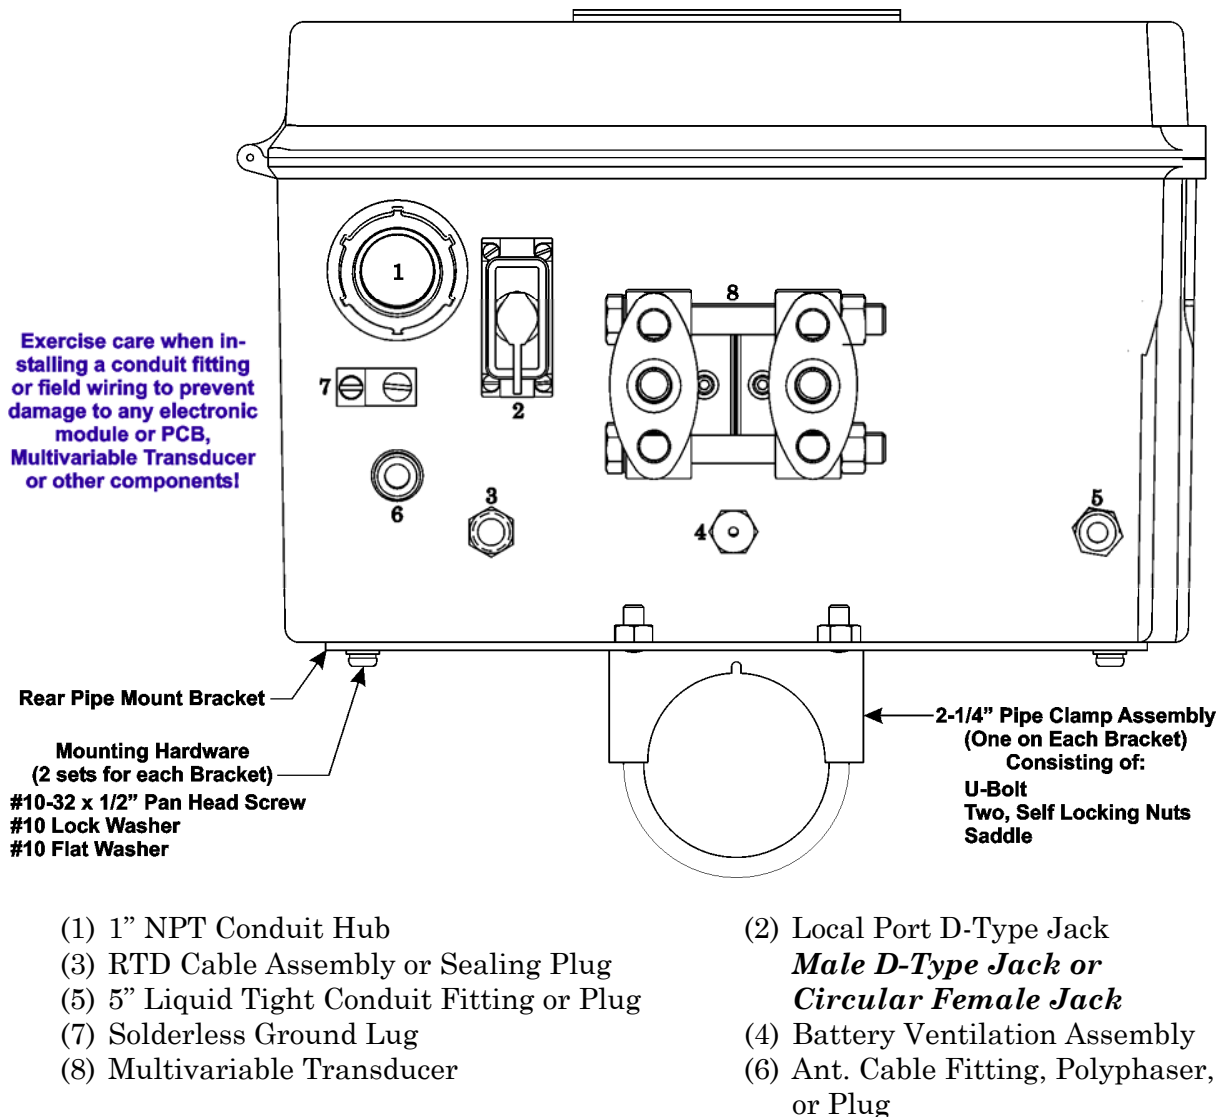

Figure 2-3 - ControlWave EFM Bottom View
- The unit is to be positioned vertically with the Multivariable Transducer (MVT) at its base and is to be mounted to a wall or a vertical 2" pipe (clamped at the rear of the unit via two clamps and four bolts). If used, the 2" pipe is to be anchored in cement (deep enough to conform to local building codes associated with frost considerations). The basic unit measures 14.55" in height by 13" in width by 6.875" in depth. A Multivariable Transducer adds 2.8" to the unit's height. See Figures 2-3 and 2-4.